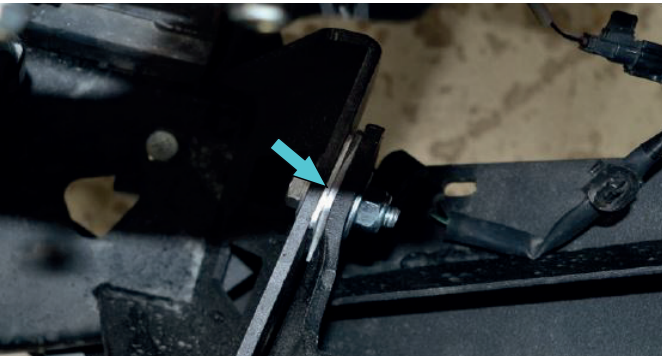

Fig.39
39. Align the bumper body with the vehicle. Add adjusting plate 2mm (item. 21) or adjusting plate 3mm (item. 22) if it's necessary, between bumper body and winch bracket in fixation points (fig.39).